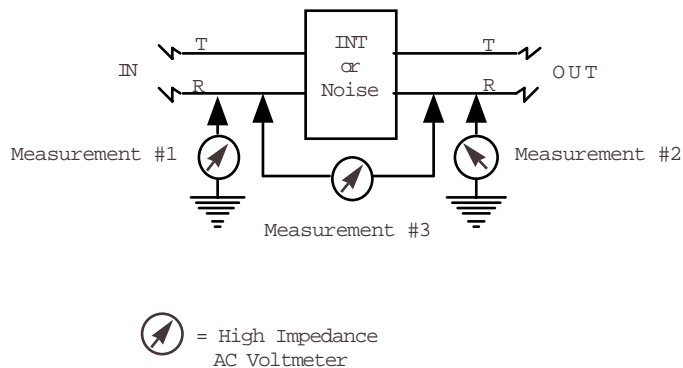

Figure 1: AC Voltage Measurements
(a) Using a high impedance AC voltmeter, measure and record the AC voltage, tip (T) or ring (R) to ground, on the central office (CO) side of the transformer. See Figure 1, measurement #1.
(b) Measure and record the AC voltage, T or R to ground, of the same pair on the field or remote side of the transformer. See Figure 1, Measurement #2.
(c) Measure and record the AC voltage across the transformer, T-IN to T-OUT or R-IN to R-OUT. See Figure 1, measurement #3.
- (a) To insure measurement of AC voltage only, use a high impedance AC voltmeter. Measure and record the AC voltage, tip (T) or ring (R) to ground, on the central office (CO) side of the transformer. See Figure 1, measurement #1.
- (b) Measure and record the AC voltage, T or R to ground of the same pair on the field or remote side of the transformer. See Figure 1, Measurement #2.
- (c) Measure and record the AC voltage across the Choke or INT, T-IN to T-OUT or R-IN to R-OUT. See Figure 1, measurement #3.